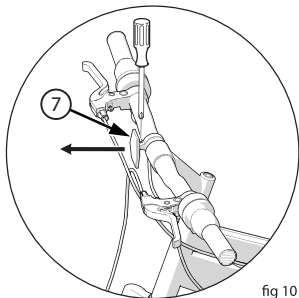

fig 10
1. Position FRONT Reflector (7) so it points straight forward (fig 10).